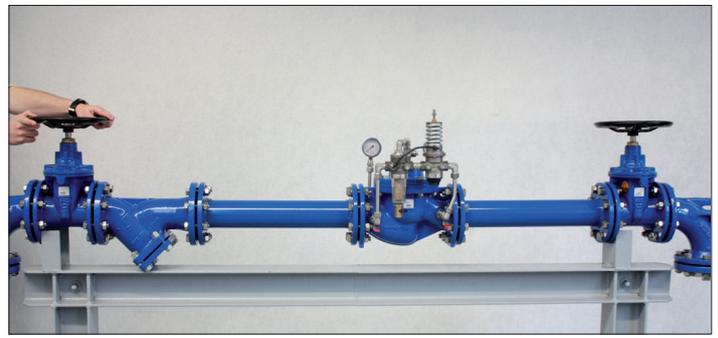

Figure 18: Partial opening of the upstream pressure valve
5. The pressure-sustaining valve is filled by slow and careful opening of the upstream pressure valve (e.g. a gate valve, see Figure 18) with 1 – 3 turns.